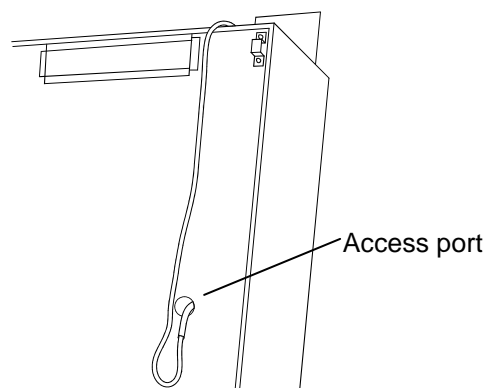

Fig. 10
4. Pass the recorder sensor into the chamber through the access port. See Fig. 10